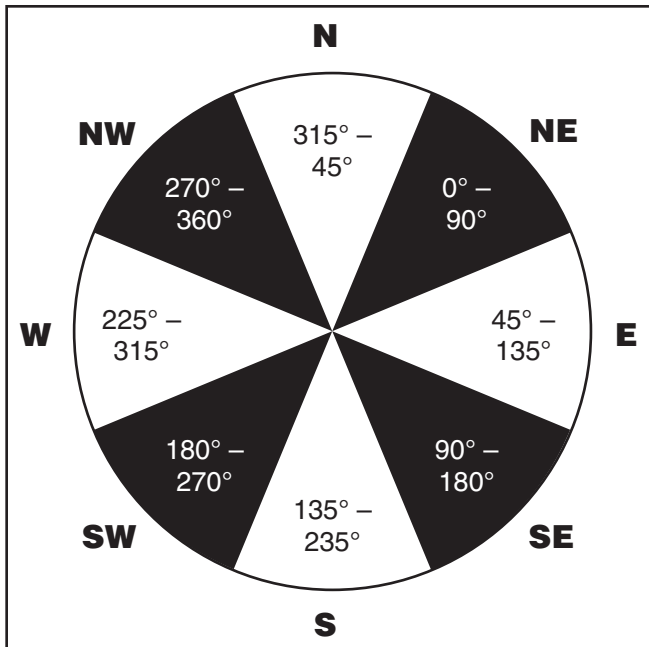

Figure 30. Pie chart of the eight directional regions referenced in the Brightest Star Alignment procedure.
2. The hand controller will prompt you to "Select Region". Choose the direction that corresponds with where you see the brightest star in the night sky. It may be helpful to have a compass for reference during this process. There are eight regions to choose from, each covers a 90-degree span in azimuth (**Figure 30**). The direction you choose will only affect your alignment star selection; you will still be able to choose stars to view across the entire sky once the alignment is complete.